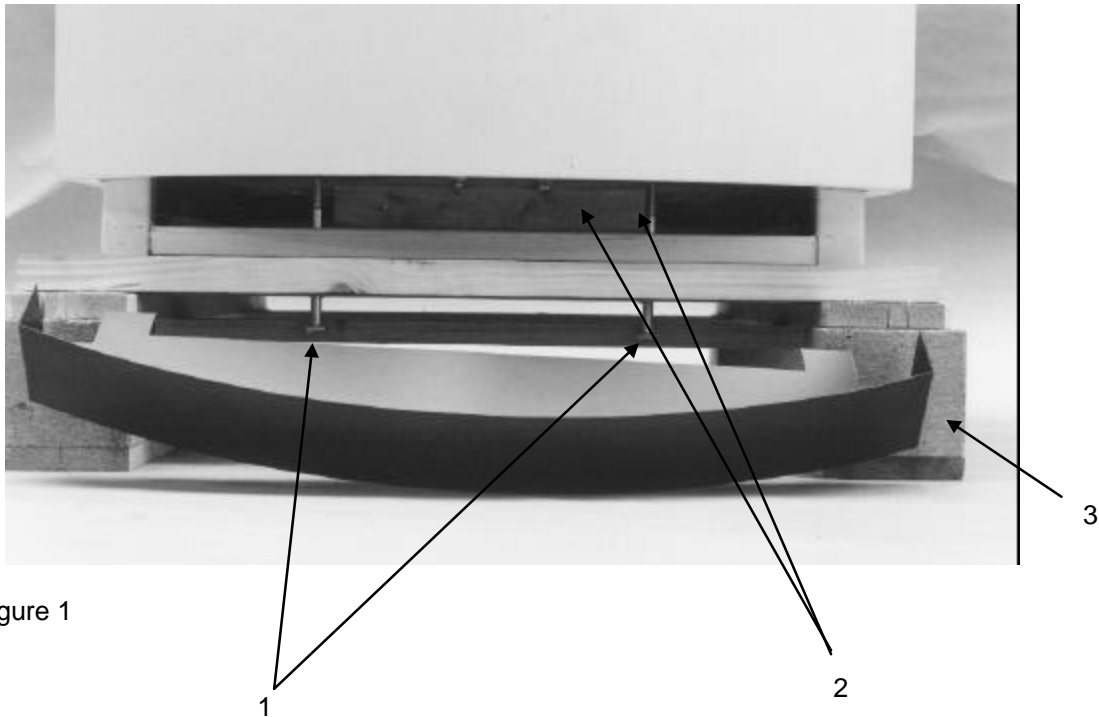

figure 1
- Remove the two bolts (see figure 1, number 1) which are underneath the pallet.
- When the machine is placed, the front skirt can be mounted with the two screws in the frame (see figure 1, number 3)